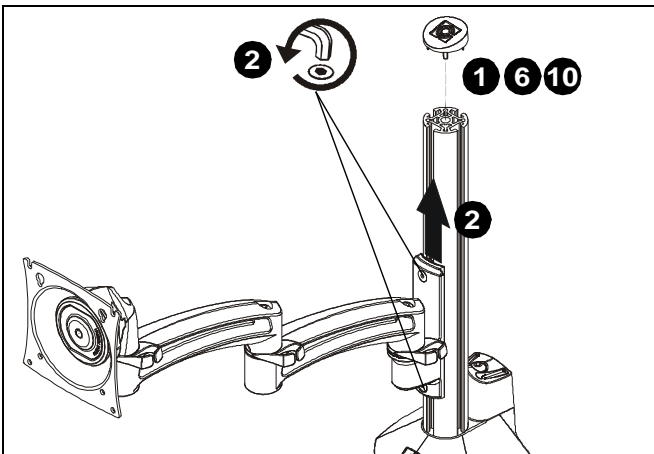

Figure 1
1. Remove cap from K2C column. (See Figure 1)
2. Loosen screws holding arm to column and slide arm off of column. (See Figure 1)
6. Remove cap from K2C column. (See Figure 1)
10. Remove cap from K2C column. (See Figure 1)